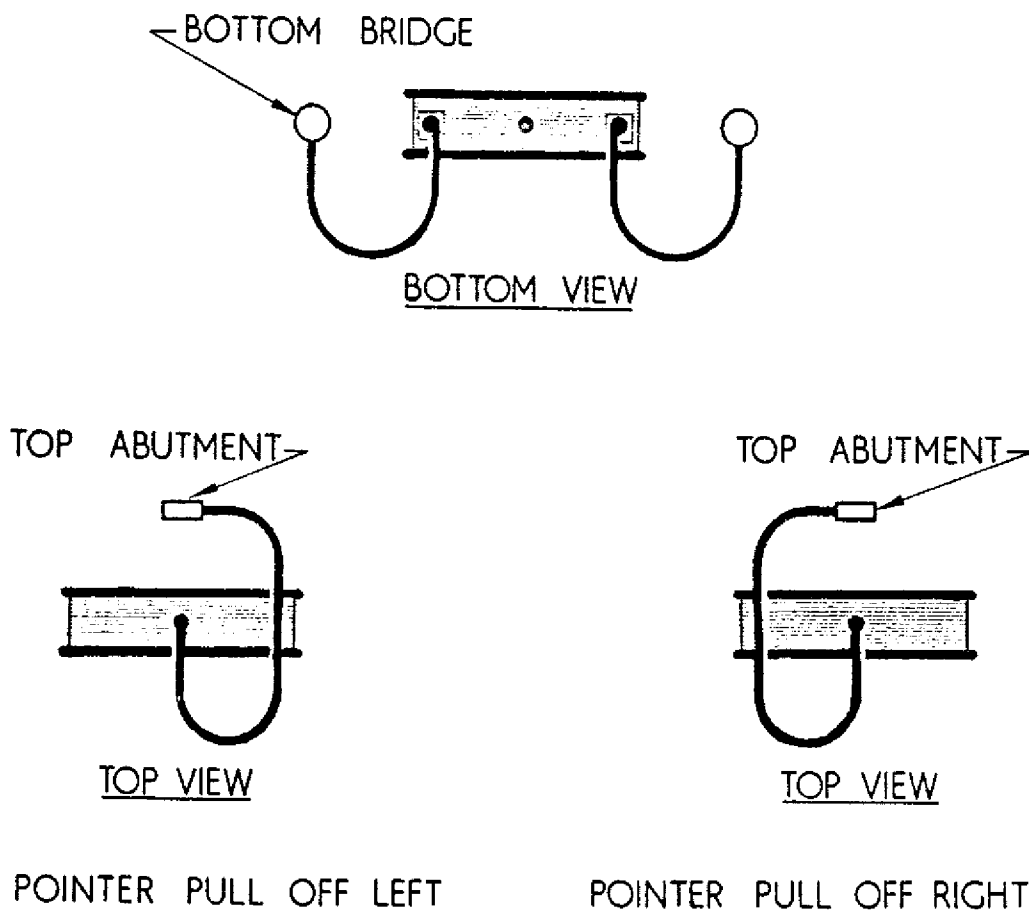

Fig.2. Ligament details
- (8) Solder the ligaments to their respective terminals. Fig.2. shows the shape of the ligaments after soldering and the configuration of the ligaments for indicators with pointer pull off to the right or left. Information concerning the direction of pull off for a particular version of the indicator will be found in the appropriate addendum at the rear of this manual.